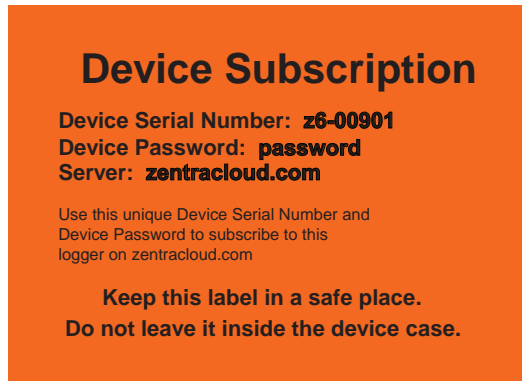

Figure 23 Sample device subscription card
8. Fill in the ZL6 Device Serial Number and Device Password as shown on the device subscription card (Figure 23).